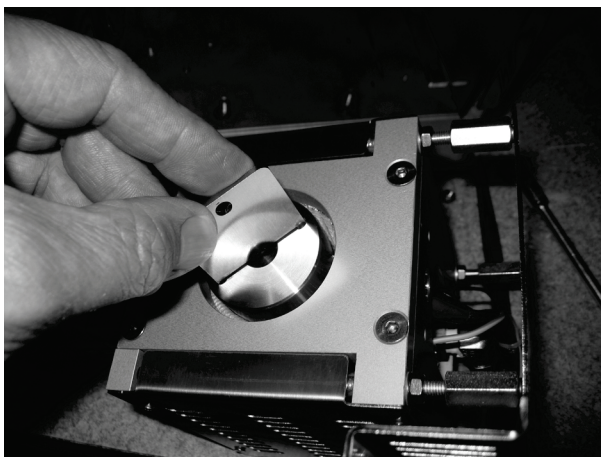

Figure 7 Loosening a window cap
8. Using the spanner provided (P/N L8201820), loosen and then remove the window cap (Figures 7–8).